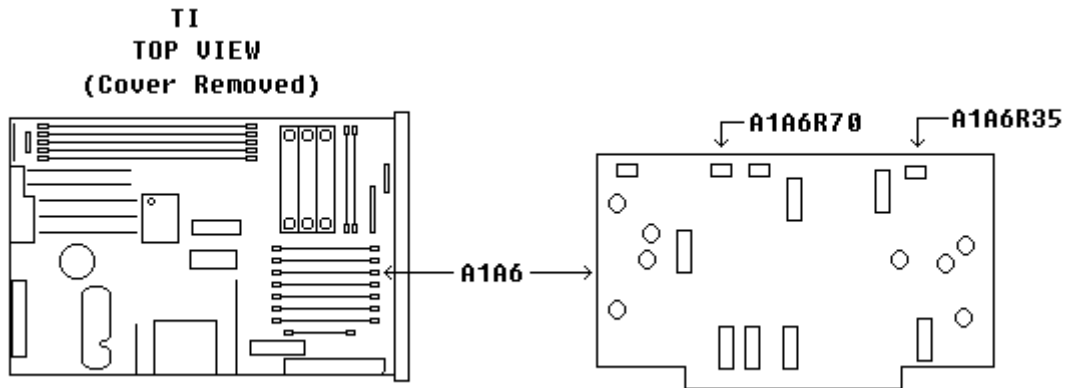

Figure 15. FM Adjustment locations.
(2) Press TI keys as listed in (a) through (g) below:
(3) Set the audio analyzer to produce a 100 kHz, 0.01 V LEVEL STEP size, 1.414 V output with 600Ω output impedance, then select special function 17.
(4) Set measuring receiver and local oscillator to measure 15 GHz, then select **FM** measurement and **300 Hz HP FILTER, 3 kHz LP FILTER,** and **+PEAK** detector.
(5) Adjust A1A6R35 (fig. 15) for an indication of 100.0 ±1 kHz FM deviation on the measuring receiver (R).
(6) Adjust A1A6R70 (fig. 15) until TI meter indicates 100 kHz FM deviation (needle at full scale) (R).